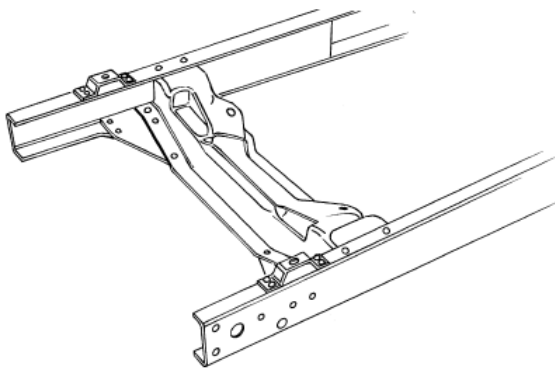

Figure 1- Box the Rails
3. Boxing the rails is next. The flange on the left rail should be flattened where the old steering box was mounted and made straight and true. The boxing plates are to stand square on the lower rail flange. The frame rail top edges should be ground straight so the boxing plates fit tight to the rail edges. Do not grind too much off the rails. The boxing plates are then clamped in place, with the front end of the plates against the back of the stock crossmember. Weld in short sections at a time in alternating locations to minimize warpage. It is also a good idea to clamp a bar across the rails to hold them in place during welding. Grind smooth when done. See **Figure 1**.